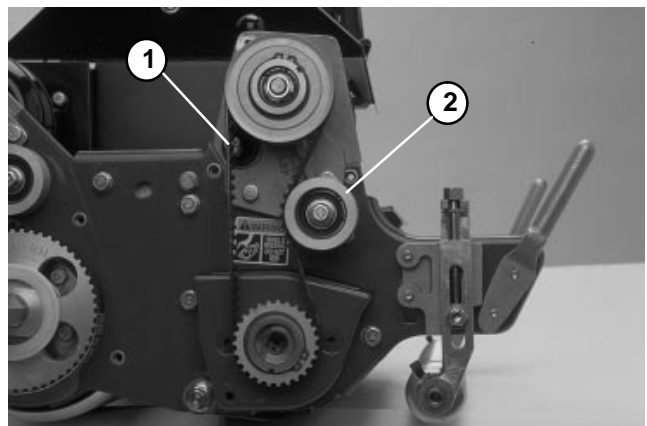

Figure 9
D. Pivot the idler pulley clockwise against the back side of the belt until desired belt tension is attained. **Do not over tension belt (Fig. 9).**
F. Reinstall belt cover by placing the cover in position. While maintaining a slight gap between the cover seal and the side plate, install each cap screw until the threads engage in the insert. The gap will allow visual alignment of the cap screw to the threaded insert. After all cap screws are installed, tighten them until the stand offs inside the cover contact the side plate. **Do not overtighten (Fig. 9).**